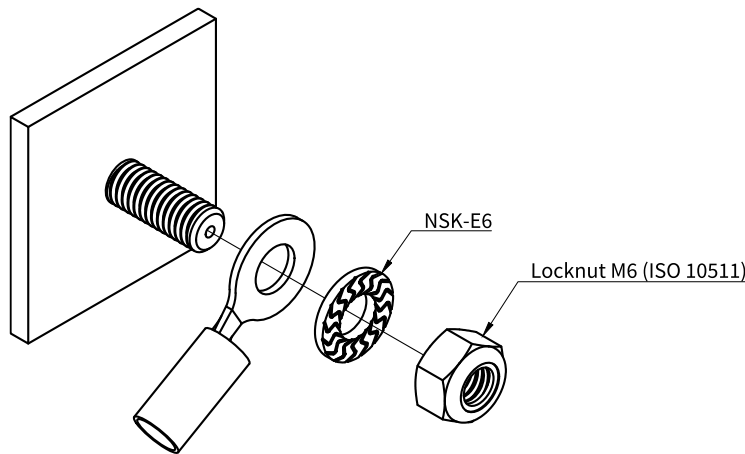

Figure 6 **Earth Cable Mounting on Earth Stud**
- Mount the earth cable as shown in Figure 6.